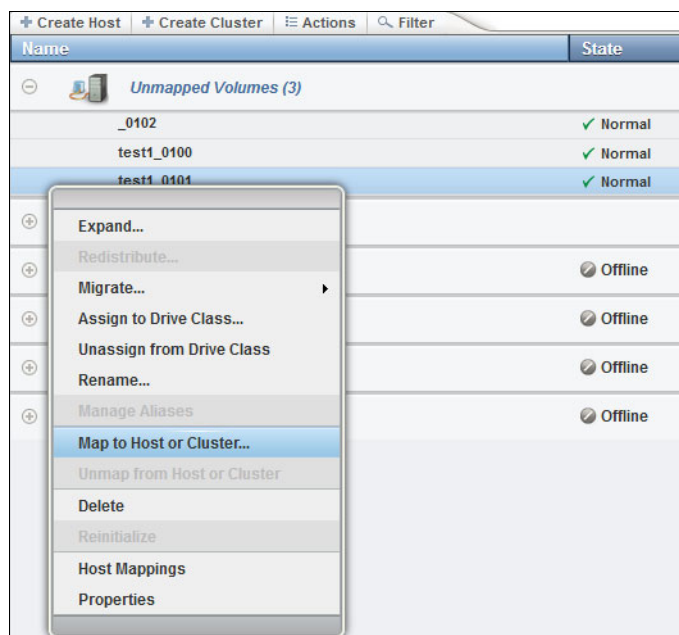

Figure 11-81 Map unmapped volumes to a host or cluster
2. The **Volumes by Hosts** menu opens. Select the volumes to map from the **Unmapped Volumes** list, as shown in Figure 11-81. From the Actions tab, or by right-clicking, select **Map to Host or Cluster**.